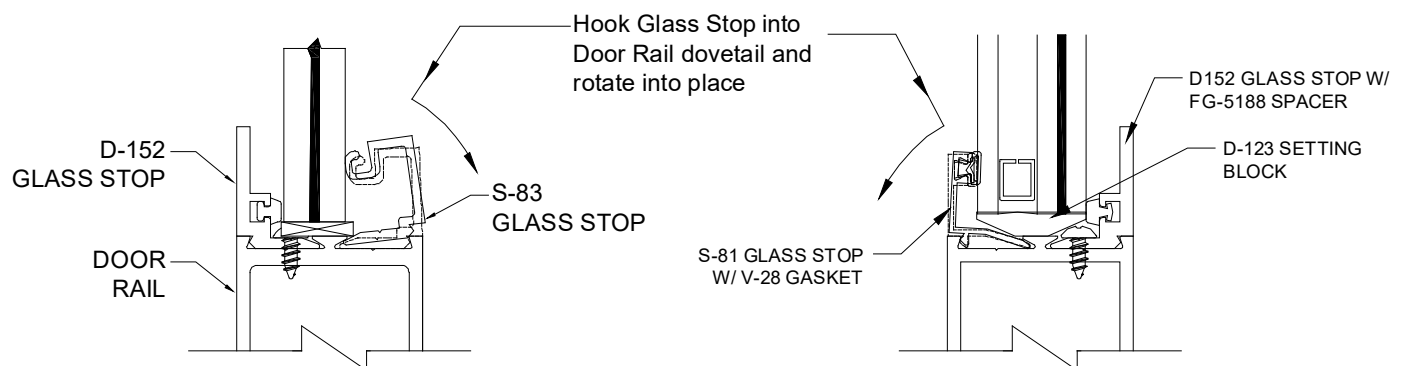

Figure 40: Installing S-81 and S-83 Glass Stop
13.3.4 Install the **S-81** or **S-83** Glass Stop into the Door Rail. Hook the stop into the dovetail on the Rail and snap into place, as shown in Figure 40.